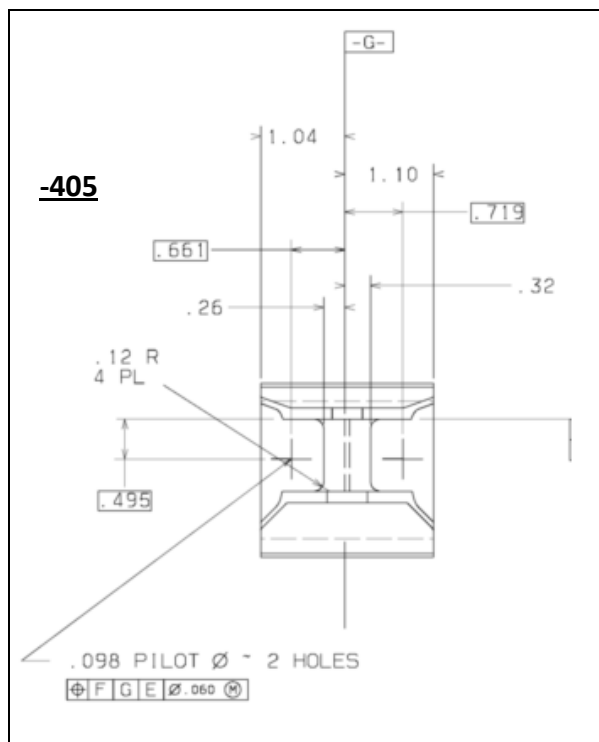
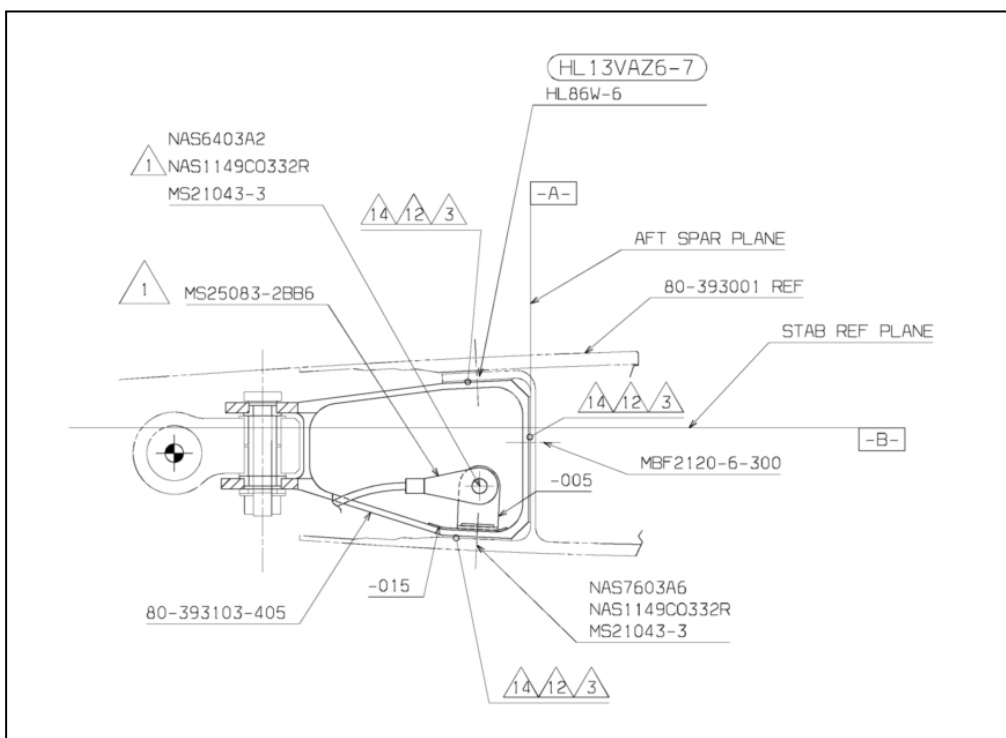

Fig.7 – Center Fitting rear view (common for LH and RH).
Fig.8 – Center Fitting lateral view (common for LH and RH).
- 37 Install the center fitting P/N 80-393103-405 using temporary fasteners and the epoxy adhesive (EA 934 NA) as sealant (ref also to fig.7-fig.8).
- 38 Install the permanent fasteners on the center fitting as per SRM 51-41-00 (ref also to fig.7-fig.8)